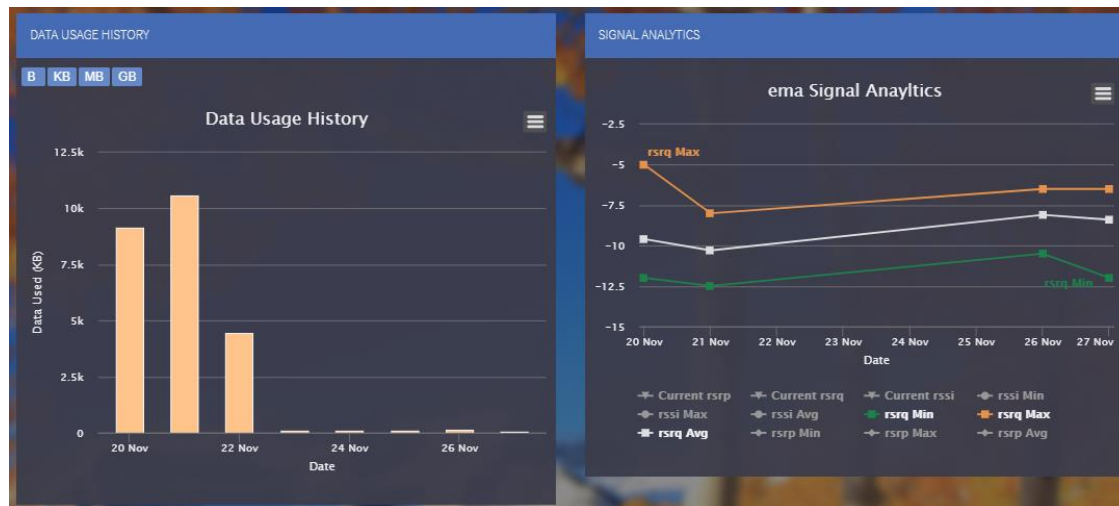

Figure 28
2. The "DATA USAGE HISTORY" and "SIGNAL ANALYTICS" sections can be used to monitor ema's usage and signal data. Reference *Figure 28*.